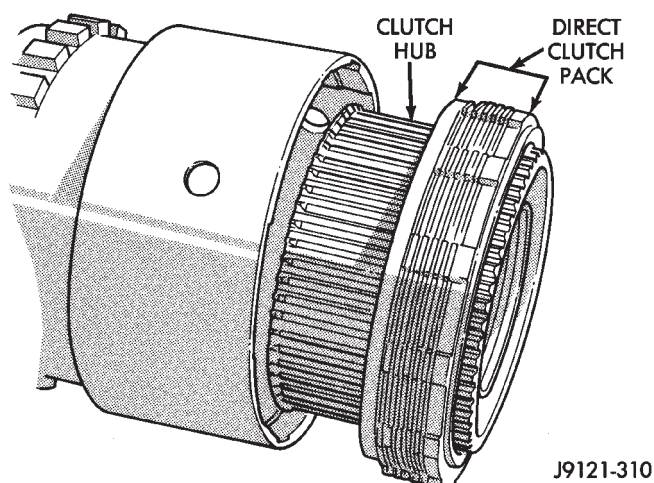

Fig. 317 Direct Clutch Pack Removal
- (9) Remove direct clutch pack from hub (Fig. 317).